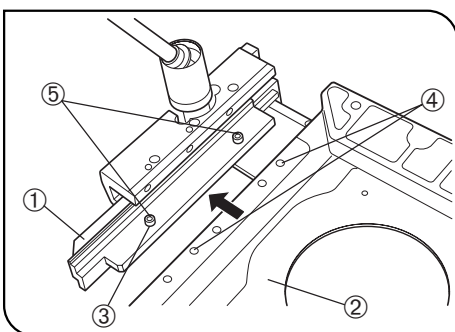

Fig. 69
(Figs. 69 to 71)
1. Invert the mechanical stage ① upside down. Also invert the IX2-SP plain stage ② and place it on top of the inverted mechanical stage. (Fig. 69)
2. Align the two mounting holes ③ on the mechanical stage with the mounting holes ④ on the plain stage. Insert the two clamping screws ⑤ and tighten using the Allen screwdriver.